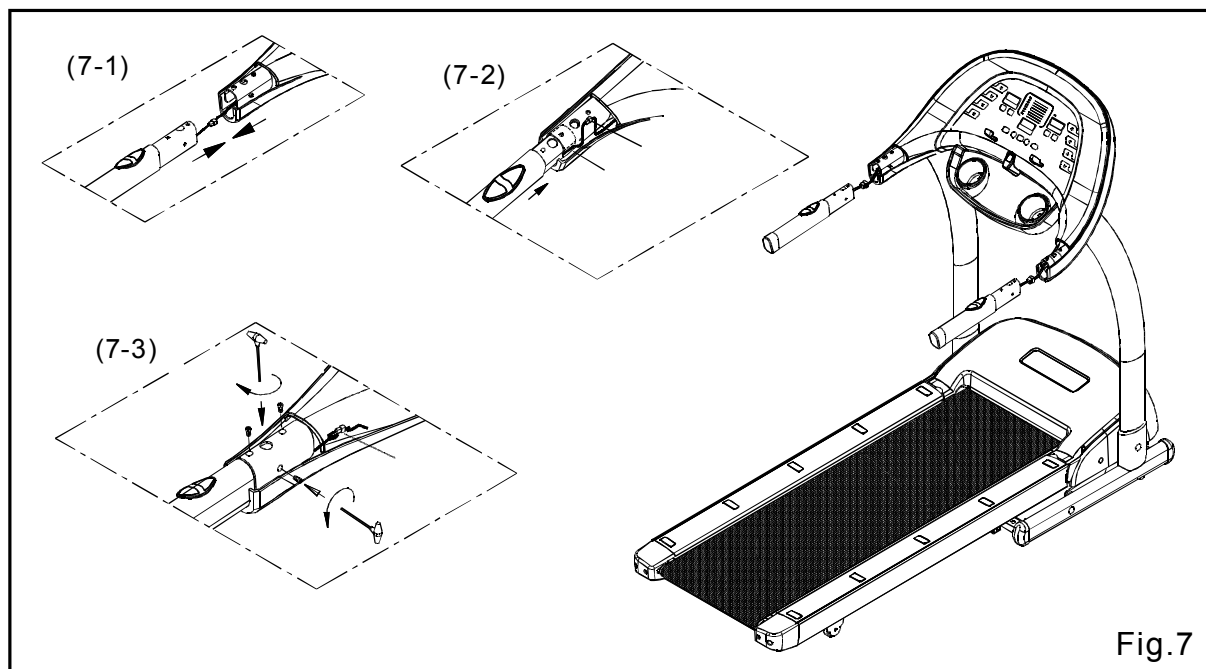

Fig.7
- 7.4 Does the same to the other handlebar. (as shown on Fig 7)